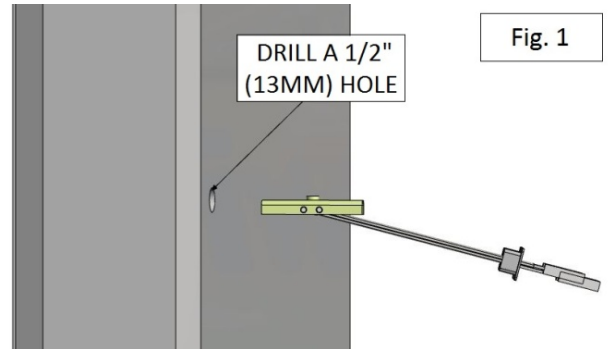

Fig. 1
1. Drill a 1/2" (13mm) hole. Hold metal channel flat alongside plastic straps and slide channel through hole. Minimum clearance behind wall 1-7/8" (48mm), Fig. 1